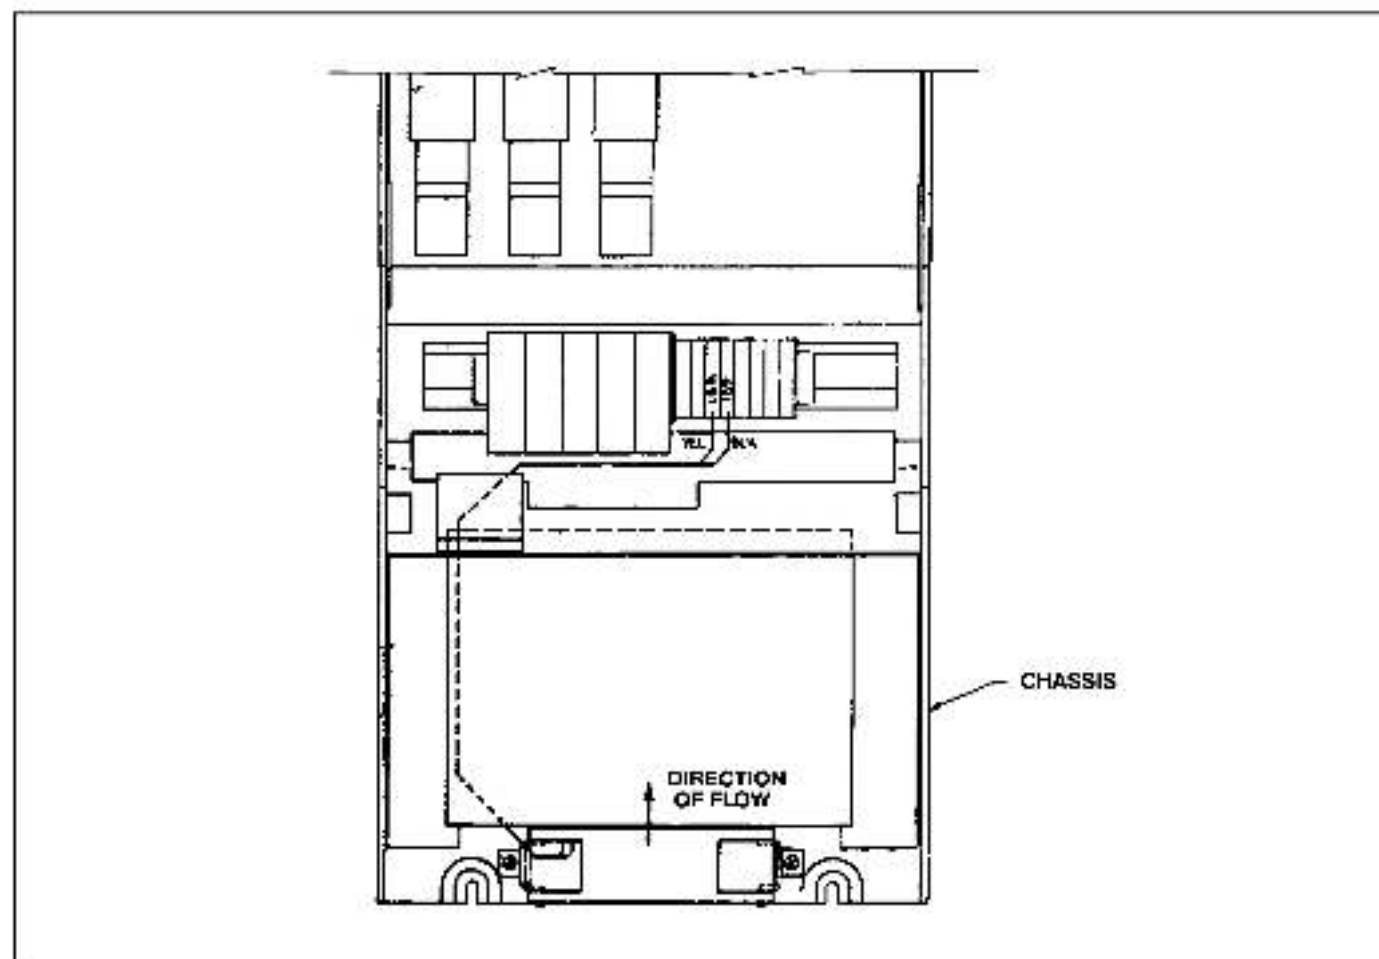

Figure 2 – Fan Kit Mounted In Controller Chassis With Air Flow From Bottom To Top
2. Mount Fan Kit to chassis using two taplites. Refer to Figure 2. **NOTE: Direction of air flow is from bottom to top of chassis controller and fan shall be oriented in this manner.**